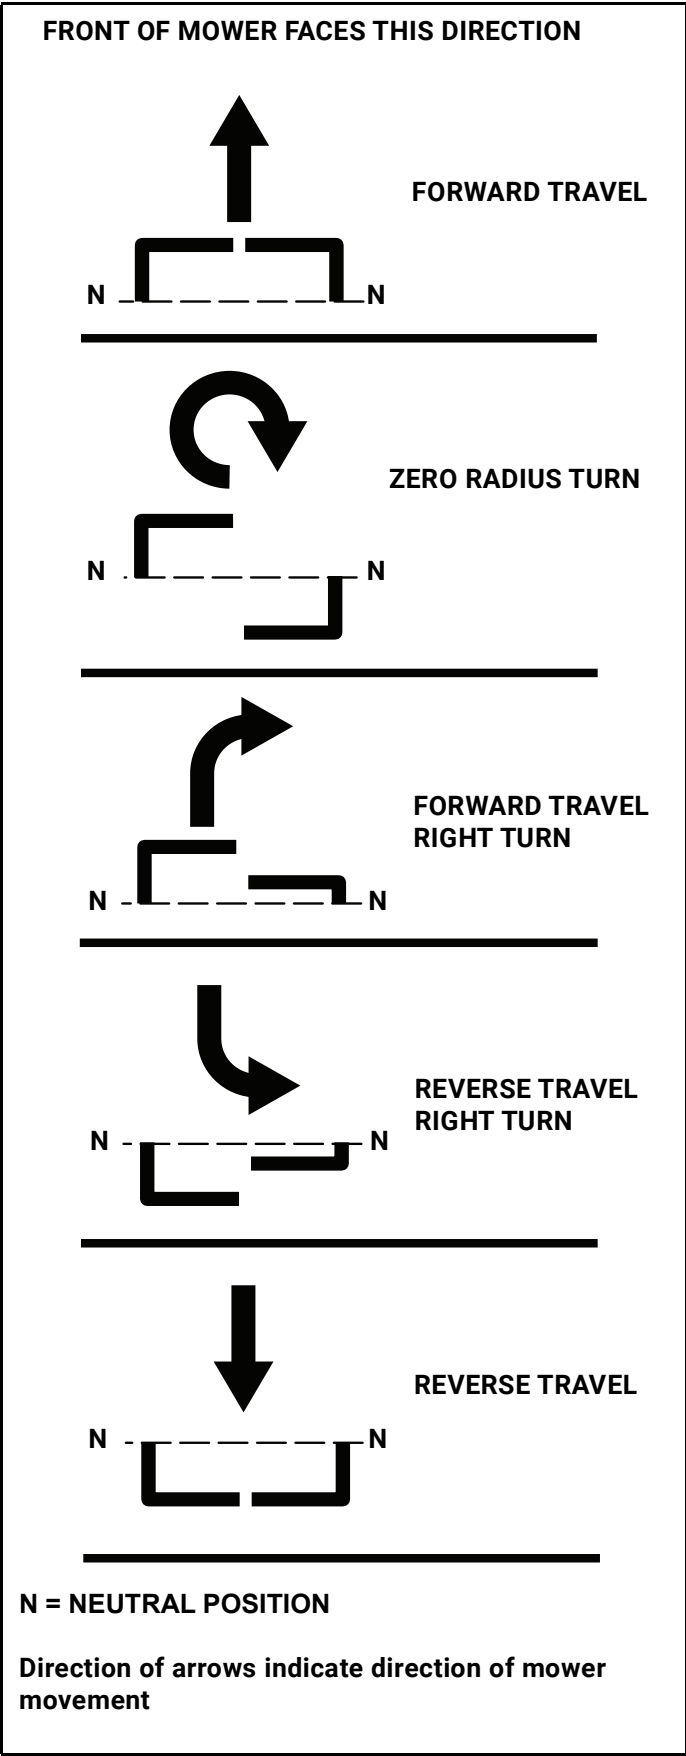

Figure 3-6
**To go forward**, push the steering control levers forward an equal distance. Figure 3-6
**To go in reverse**, pull the steering control levers rearward an equal distance. Figure 3-6
**To turn right**, move the left steering control lever farther forward from neutral than the right steering control lever. Figure 3-6
**Zero radius turn**, move one steering control lever forward and the other steering control lever back of neutral. This allows the drive wheels to counter-rotate. Figure 3-6